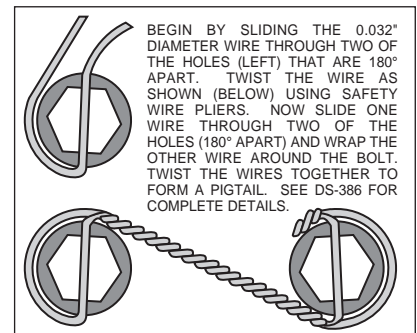
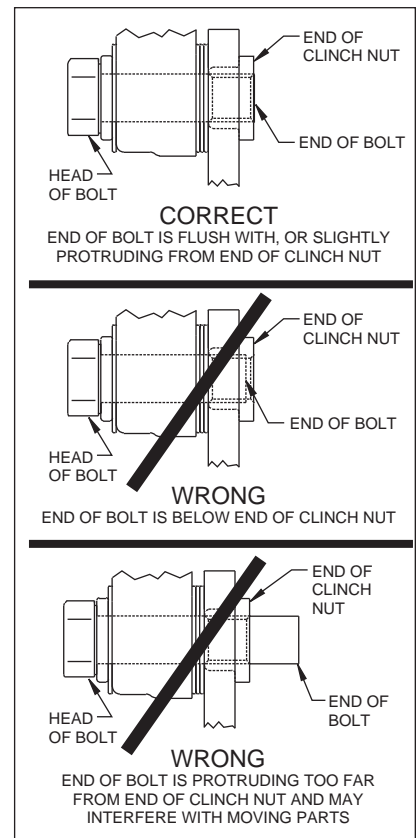

Figure 4. Safety Wire Diagram
Figure 5.
**Assembly Instructions** (numbers in parenthesis refer to the part list/diagram on the preceding pages): **CAUTION:** All mounting bolts must fully engage insert nuts. Be sure to check that all bolts are either flush or protruding through flanged side of insert nut after shimming, Figure 5.
- With the slot pointing upward and the mounting ears pointing towards the rear of the vehicle, install the caliper mounting bracket (1) to the housing flange using the stock Original Equipment Manufacturer (OEM) bolts and nuts. Stock OEM hex nuts that retain the bracket (1) should be on the wheel side of the bracket. Apply red *Loctite*® 271 to the stock OEM bolt threads and torque to OEM specifications. **NOTE:** Some brackets act as the bearing retainers, while others help locate the bearing in the axle housing flange. If the stock bearing plates are still on the axle, the caliper mounting brackets (1) should be located between the axle housing flange and the bearing retainer plate. Make sure the heads of the caliper mounting bracket insert nuts are FACING OUTWARD TOWARDS THE WHEEL.
- Bolt the hat (2) to the rotor (3) using washers (4) and bolts (5). Torque bolts (5) to 180 in-lb. Safety wire bolts (5) using standard 0.032 inch diameter stainless steel safety wire as shown in Figure 4. Please refer to Wilwood's data sheet DS-386 (available at [www.wilwood.com/Pdf/DataSheets/ds386.pdf](http://www.wilwood.com/Pdf/DataSheets/ds386.pdf)) for complete safety wire installation instructions.
- Align the correct hole pattern in the hat (2) with the stud pattern on the axle flange. **NOTE:** Some OEM and after market axles come with stud sizes larger than 0.50" diameter. Verify stud size and have a qualified machine shop drill the hats to the correct size. Slide the hat/rotor assembly (2 and 3) over the wheel studs and against the axle flange face.
- NOTE:** Please reference the caution statement at the beginning of the assembly instructions. WITH THE BLEED SCREWS POINTING UP, mount the caliper (6) over the rotor (3) and onto the caliper mounting bracket (1) using washers (7) and mounting bolts (8). View the rotor through the top opening of the caliper. The rotor should be aligned in the center of the caliper. If not, adjust the caliper by using 0.032 inch shim washers (9), placing them between the caliper mounting bracket (1) and the caliper (6). Add as many shim washers (9) as necessary to achieve the correct alignment. **NOTE:** The end of the bolt must be flush with or slightly protruding from the head of the clinch nut. See Figure 5. Place spare shims (9) between washer and caliper mounting ear to achieve the proper mounting fastener configuration. Always use the same amount of shims on both the top and bottom caliper mounting bolts (8). Apply red *Loctite*® 271 to the mounting bolt threads (8), torque bolts to 30 ft-lb. Safety wire the caliper mounting bolts (8).
- Position the Wilwood disc brake pads (10) into the caliper (6) and fasten with cotter pin (11). Steel backing plate side of brake pad should face the caliper pistons.